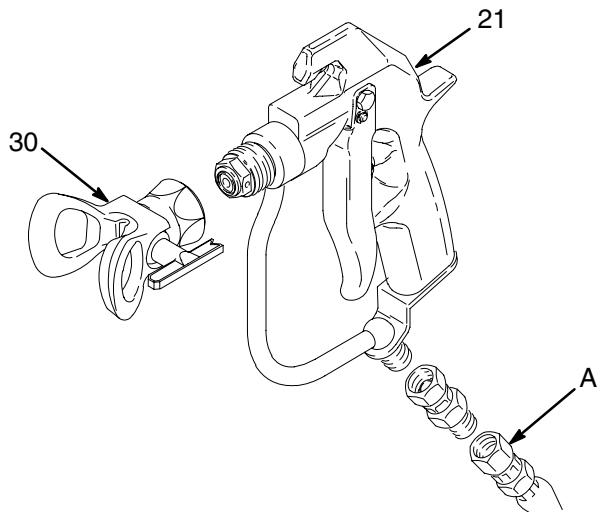

Fig. 6 04731
2. Disconnect the fluid hose (A). Remove the tip guard (30). Unscrew the spring screw (21) about 1/4 in. (7 mm) to release spring tension. See Fig. 6.